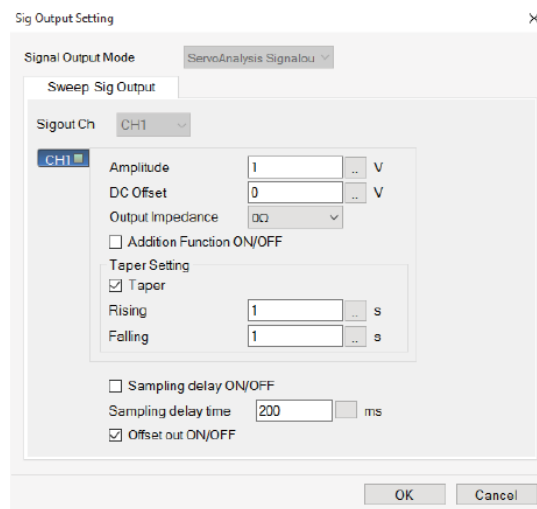

Figure 2: Setting example of signal output
6. Select signal output (figure 2). Set in the following order; [Input/ Output Setting] (menu) > [Sig Output Setting]. The output amplitude of sine wave is selected as 0.5 V in here.
5. Select the signal output (figure 2). Set it in the following order; [Input/ Output Setting] (menu) > [Sig Output Setting]. Set it as same as FRA mode.